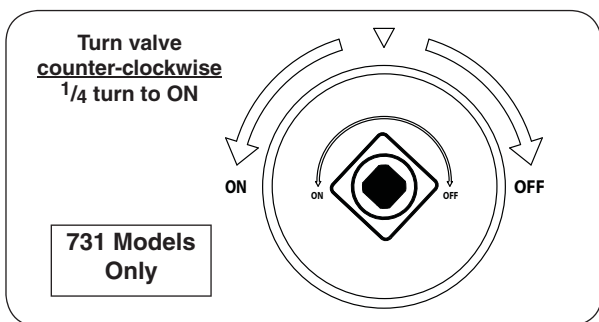

Fig. 41-2 ON/OFF key valve detail
2. If equipped, turn the ON/OFF key valve counter-clockwise a 1/4 turn to the **ON** position (Fig. 41-2).